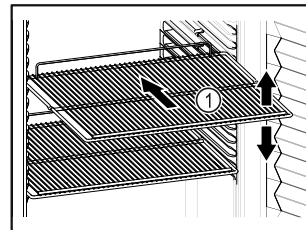

Fig. 88 Example illustration
- ☐ If storage surfaces Fig. 88 (1) are movable, adjust them according to height.